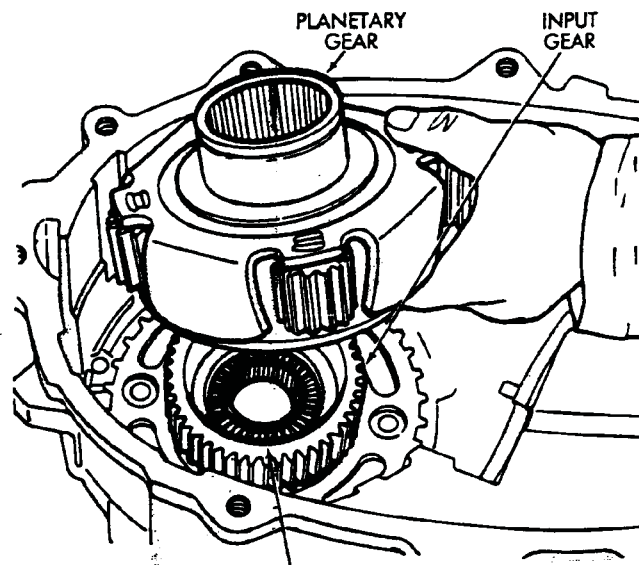

Fig. 4-40 Install Thrust Bearing and Planetary Gear
27. Install the mainshaft thrust bearing in the input gear (Fig. 4-40).
28. Install the planetary gear on the input gear (Fig. 4-40).